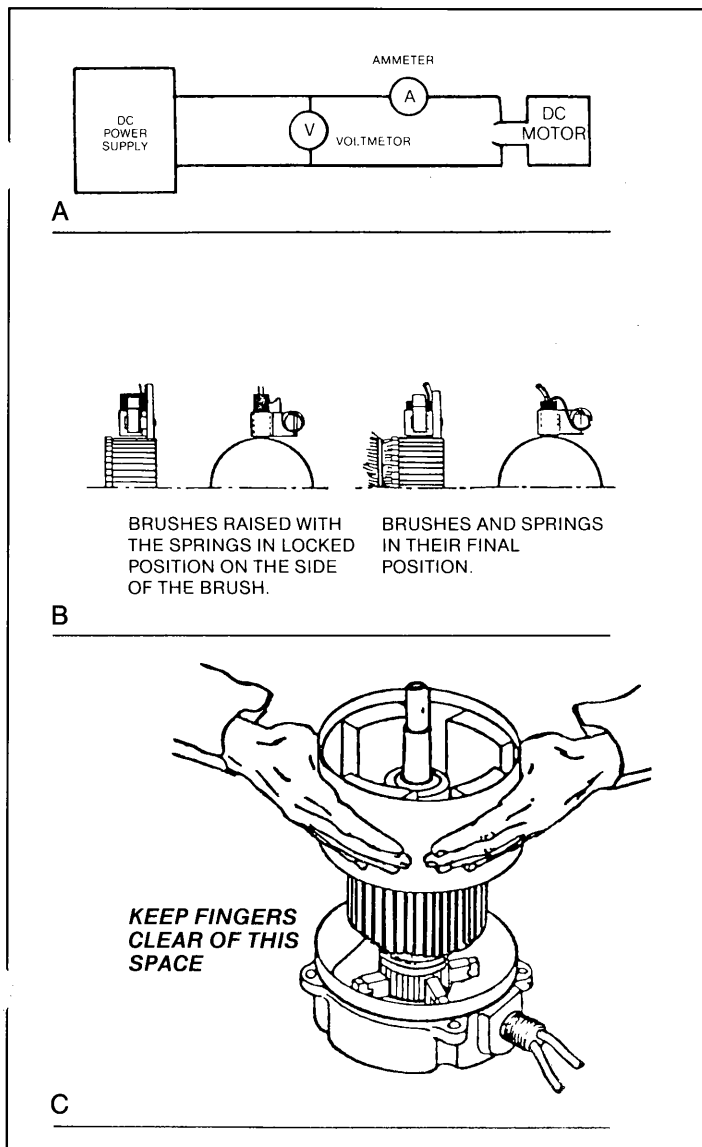

Figure 5-16. Electric Motor Service
5-24. ELECTRIC MOTOR SERVICE (Figure 5-16). The permanent magnet motor differs from conventional D.C. motors in that the field winding has been replaced with ceramic magnet pole pieces. **Do not impact, drop, or squeeze the motors as this can cause damage to the ceramic pole pieces and will affect warranty considerations.** Care must be taken when the permanent magnet motor is disassembled, since the magnet pole pieces will attract ferrous metals. This fact dictates motors should be disassembled in an area free of ferrous metal chips.
- (3) If the motor turned freely, connect an ammeter in the circuit as shown in Figure 5-16 A. With rated voltage applied and the shaft running free, the ammeter should read less than 20% of the nameplate full load current. If the motor meets the above conditions then it can be assumed the original problem is external to the motor.
- (1) Install new brushes and be sure they are free in the holder. Install brush with the lead wires positioned as when received. Raise all brushes to the locked position. (See Figure 5-16 B and (3) in the Trouble Shooting segment).
- (2) Place commutator cover on a work bench with brush assembly facing upward.
- (3) Place the bearing spring into the bearing bore.
- (4) Take a complete armature assembly, including bearings, and insert commutator end bearing into the bearing bore.
- (5) Set the brushes to final position as shown in Figure 5-16 B.
- (6) The next step is place the complete stator down over the vertical armature, and into position on the commutator cover.
Care must be exercised at this point. There is a strong magnetic attraction between the stator assembly and the armature, which tends to pull the stator assembly rapidly downward. It is important to have a firm grasp of the stator assembly and be sure fingers are free from the space between stator assembly and commutator cover (see Figure 5-16 C).